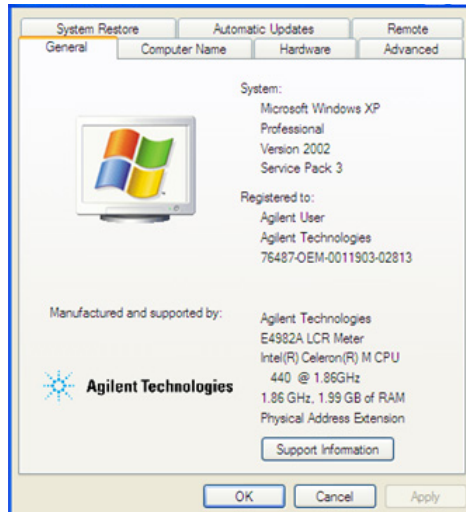

Figure 22 System Properties Window (General)
Step 2. Click **Start**, right click on **My Computer** and select **Properties** as shown in Figure 21. Then System Properties window will appear (Figure 22).